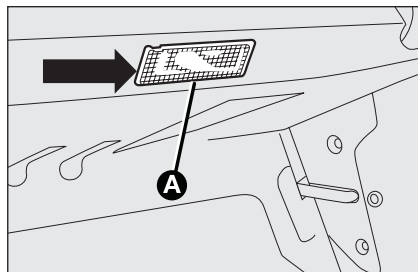

fig. 42
- ☐ remove the light unit **A**-fig. 42 levering in the point shown by the arrow;